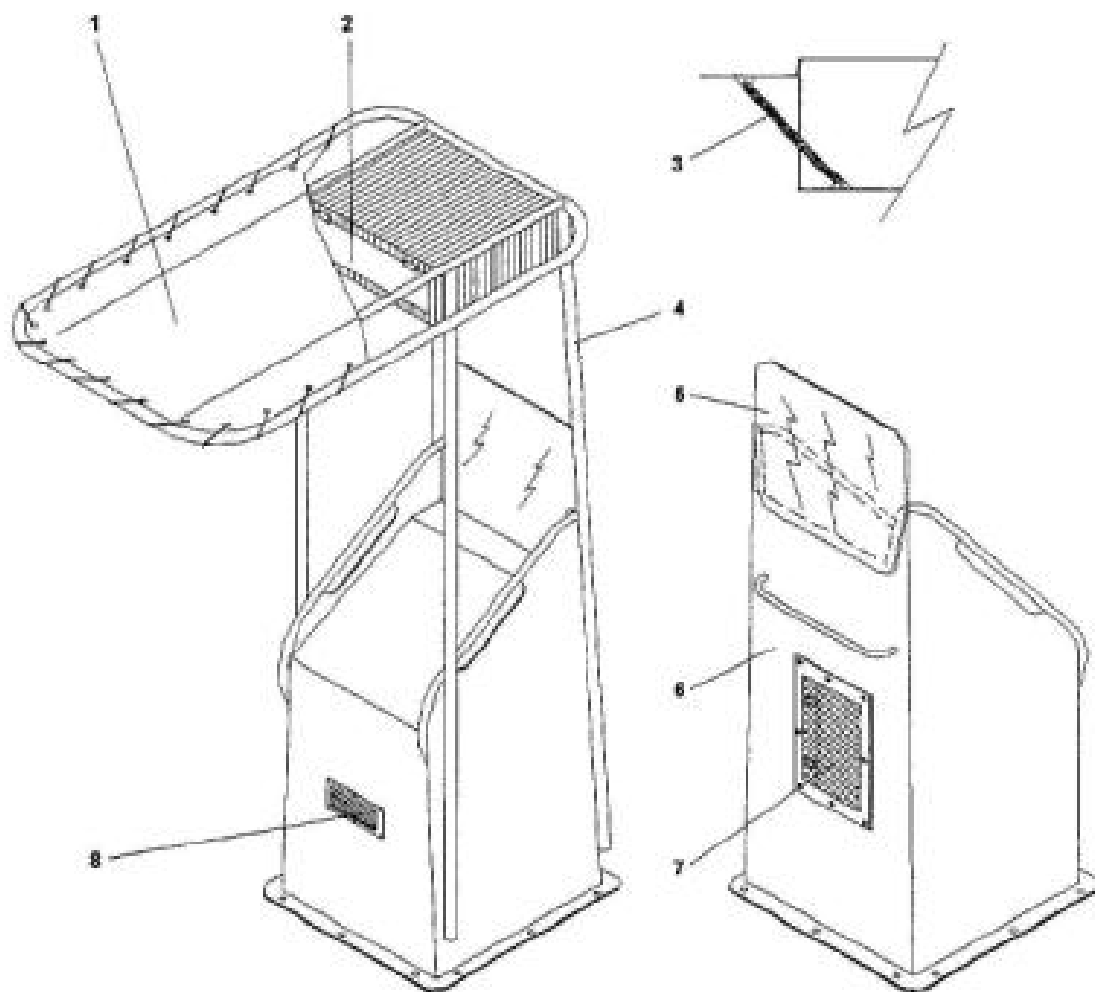

Figure 3-2-1 Patrol Console - Aluminum
1. Aluminum patrol console (see Figure 3-2-1)..